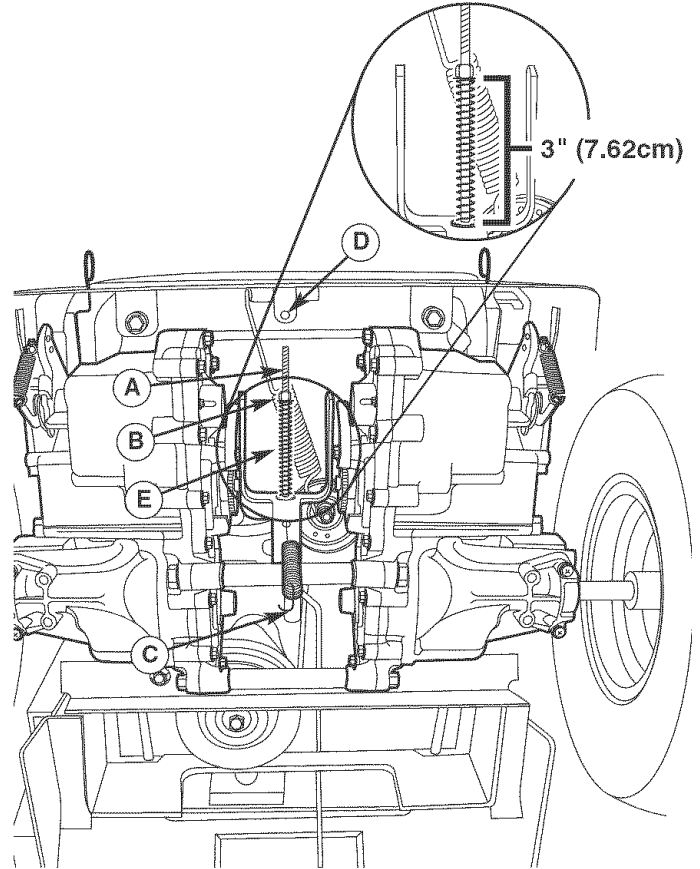

Figure 38. Brake Adjustment
2. Locate the brake rod (A, Figure 38) and adjustment nut (B).
4. Measure the parking brake spring (E). Its compressed length, with the ground speed levers in their PARK positions should be 3" (7.62cm). Adjust the spring length by turning the adjustment nut (B), if necessary.